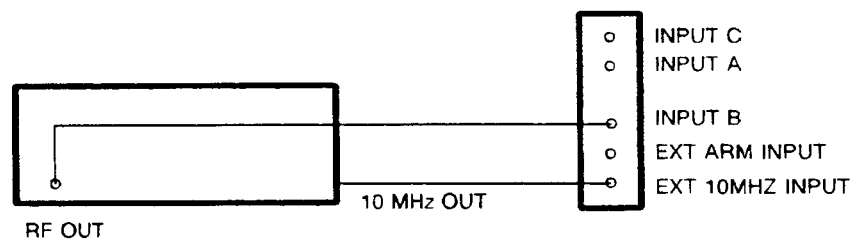

Figure 5-17. Input B Amplifier Setup Configuration
3. Connect the counter to the signal generator as shown in Figure 5-17.